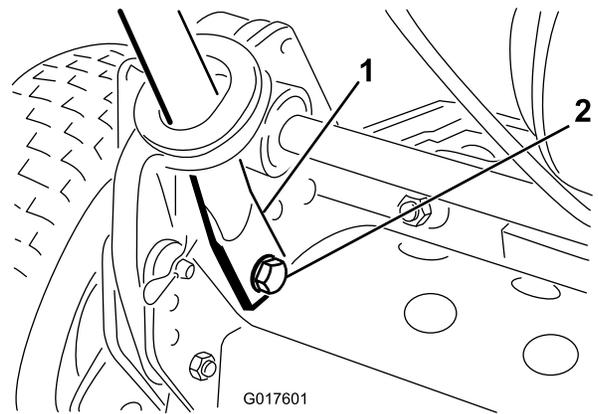

Figure 3
4. Squeeze the handle ends inward and install them on the mounting pins (Figure 3).
5. Secure the handle ends to the mounting pins with the bolts, washers, and lockwashers previously removed (Figure 3).
6. Secure the handle arms to the rear of the frame with the hairpin cotters and the ring pins previously removed (Figure 3).